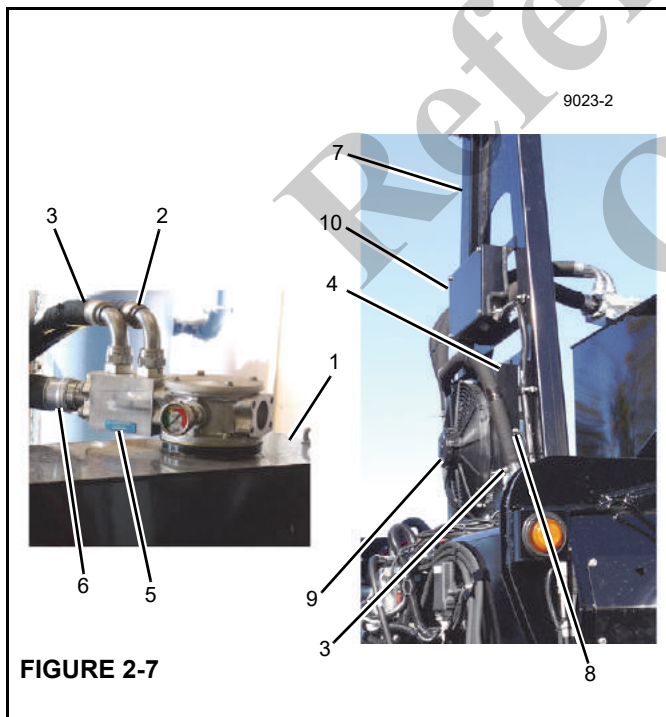

FIGURE 2-7
The hydraulic oil cooler (4, Figure 2-7) is located on the boom rest (7). The hydraulic oil cooler return circuit is parallel with the reservoir return circuit (6). The hydraulic oil cooler inlet (2) and return/out (3) circuits run through the bypass block (5) on top of the hydraulic reservoir (1). A 206 kPa (30 psi) check valve in the bypass block regulates flow through the oil cooler. When the hydraulic oil is cold, most of the return oil goes directly to the tank. As the oil warms up and becomes thinner, more oil goes through the cooler.